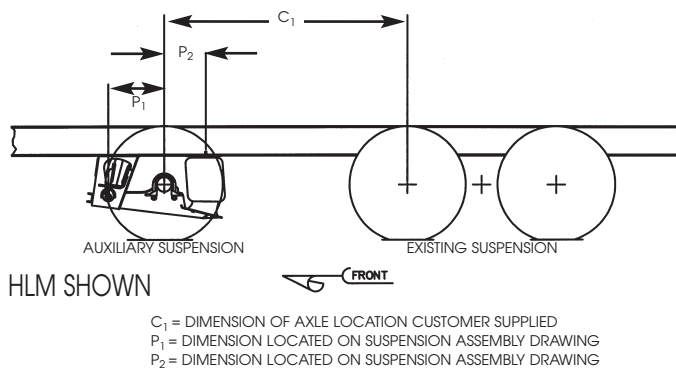

Figure 10
- Determine the location of the auxiliary axle, mark the location of the center line of the axle on the outside of the trailer frame rail. Refer to the suspension assembly drawing and mark the boundary areas of the auxiliary suspension mounting surfaces on the bottom of the trailer frame rails, sub-frame or spacers. (See figure 10).